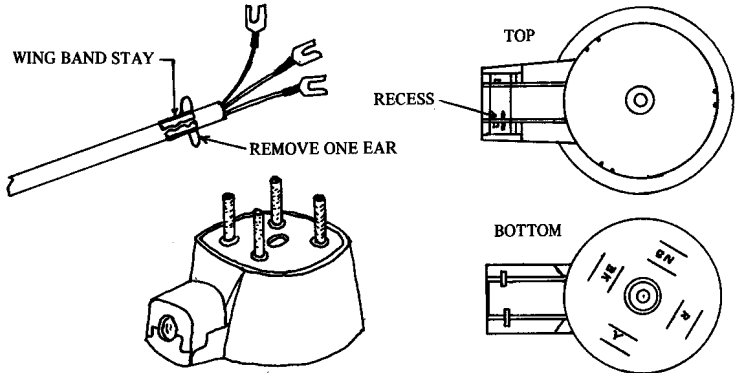
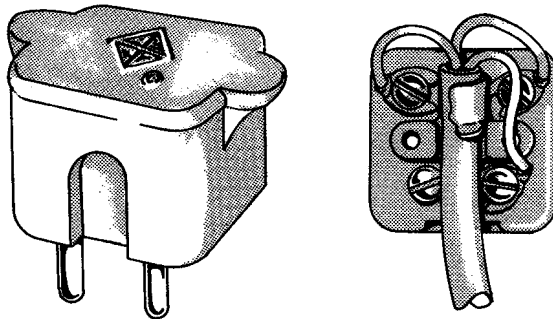

FIGURE 6. 505A Portable Phone Plug
FIGURE 7. 283B Portable Phone Plug
2.04 *505A Plug*: The 505A plug fits 404B and 548A jacks, as well as associated 498A and 550A jack assemblies. It consists of an insulating block with four push-in spade terminals and a removable cap (see Figure 6). The 505A plug replaces the 283B plug (see Figure 7).